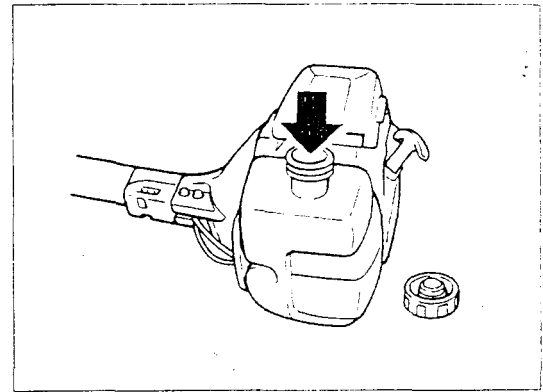

Fig15
- Unscrew the fuel cap and fill the tank with fuel, then screw on the fuel filler cap tightly (Fig. 15).